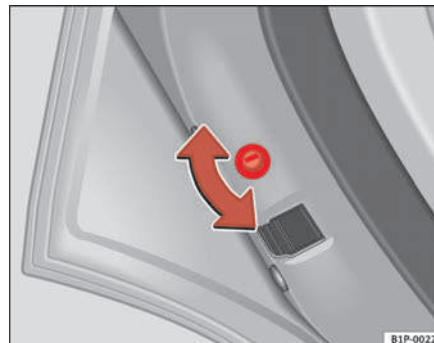
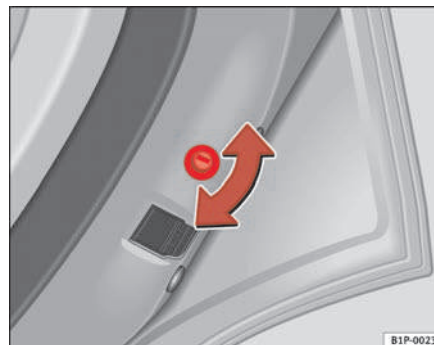

Fig. 44 Child safety lock on the left hand side door
Fig. 45 Child safety lock on the right hand side door
- With the door open, rotate the groove in the door using the ignition key, anti-clockwise for the left hand side doors, and clockwise for the right hand side doors ⇒ page 74, fig. 44, ⇒ page 74, fig. 45.
- With the door open, rotate the groove in the door using the ignition key, anti-clockwise for the right-hand side doors, and clockwise for the left-hand side doors ⇒ page 74, fig. 44, ⇒ page 74, fig. 45.